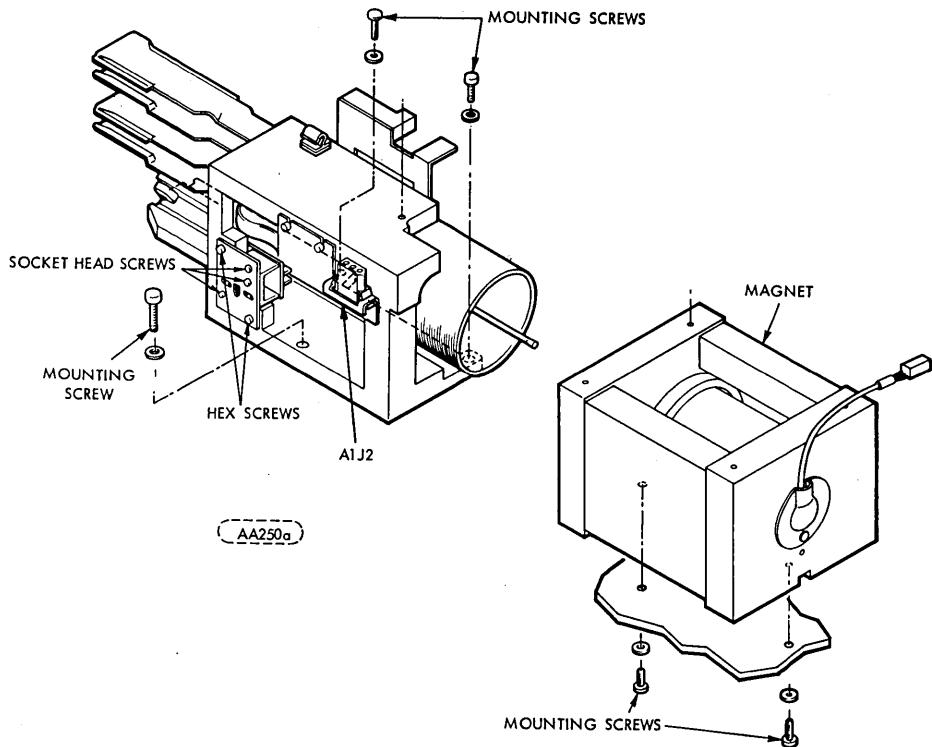

FIGURE LE2-3. ACTUATOR, MAGNET AND EOT MOUNTING
13. Remove two screws that fasten the magnet to the main deck. Screws are located underneath the base casting, one screw in back of magnet and one in front (see Figure LE2-3).
19. Using 9/64 ball Allen driver, remove the three mounting bolts from the actuator frame securing the actuator to the deck (see Figure LE2-3).
2. Using 9/64 ball Allen drive, install the three mounting bolts securing the actuator to the disk (see Figure LE2-3).
7. Fasten magnet to the main deck with the two mounting screws (see Figure LE2-3).